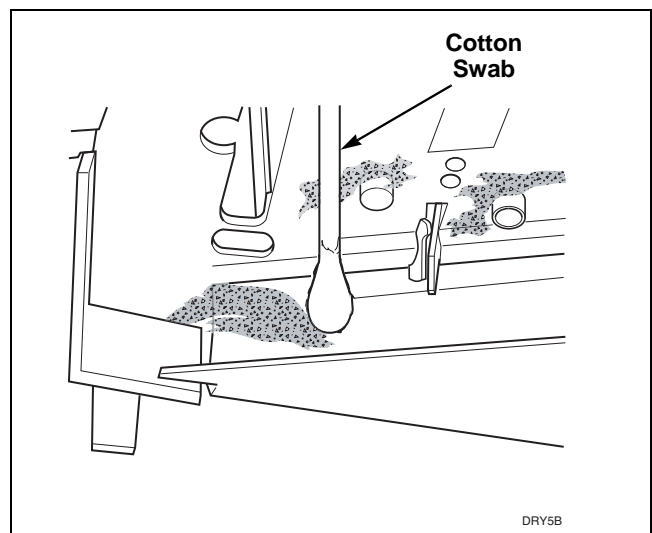

Figure 59
- Check coin path in coin drop for lint and residue. If lint or light residues are present, use a cotton swab to remove. If heavy residue is present, it may be necessary to first scrape off excessive residue and then use a cotton swab dipped in water or isopropyl alcohol (rubbing alcohol) to remove remainder of residue. Refer to *Figure 59*.